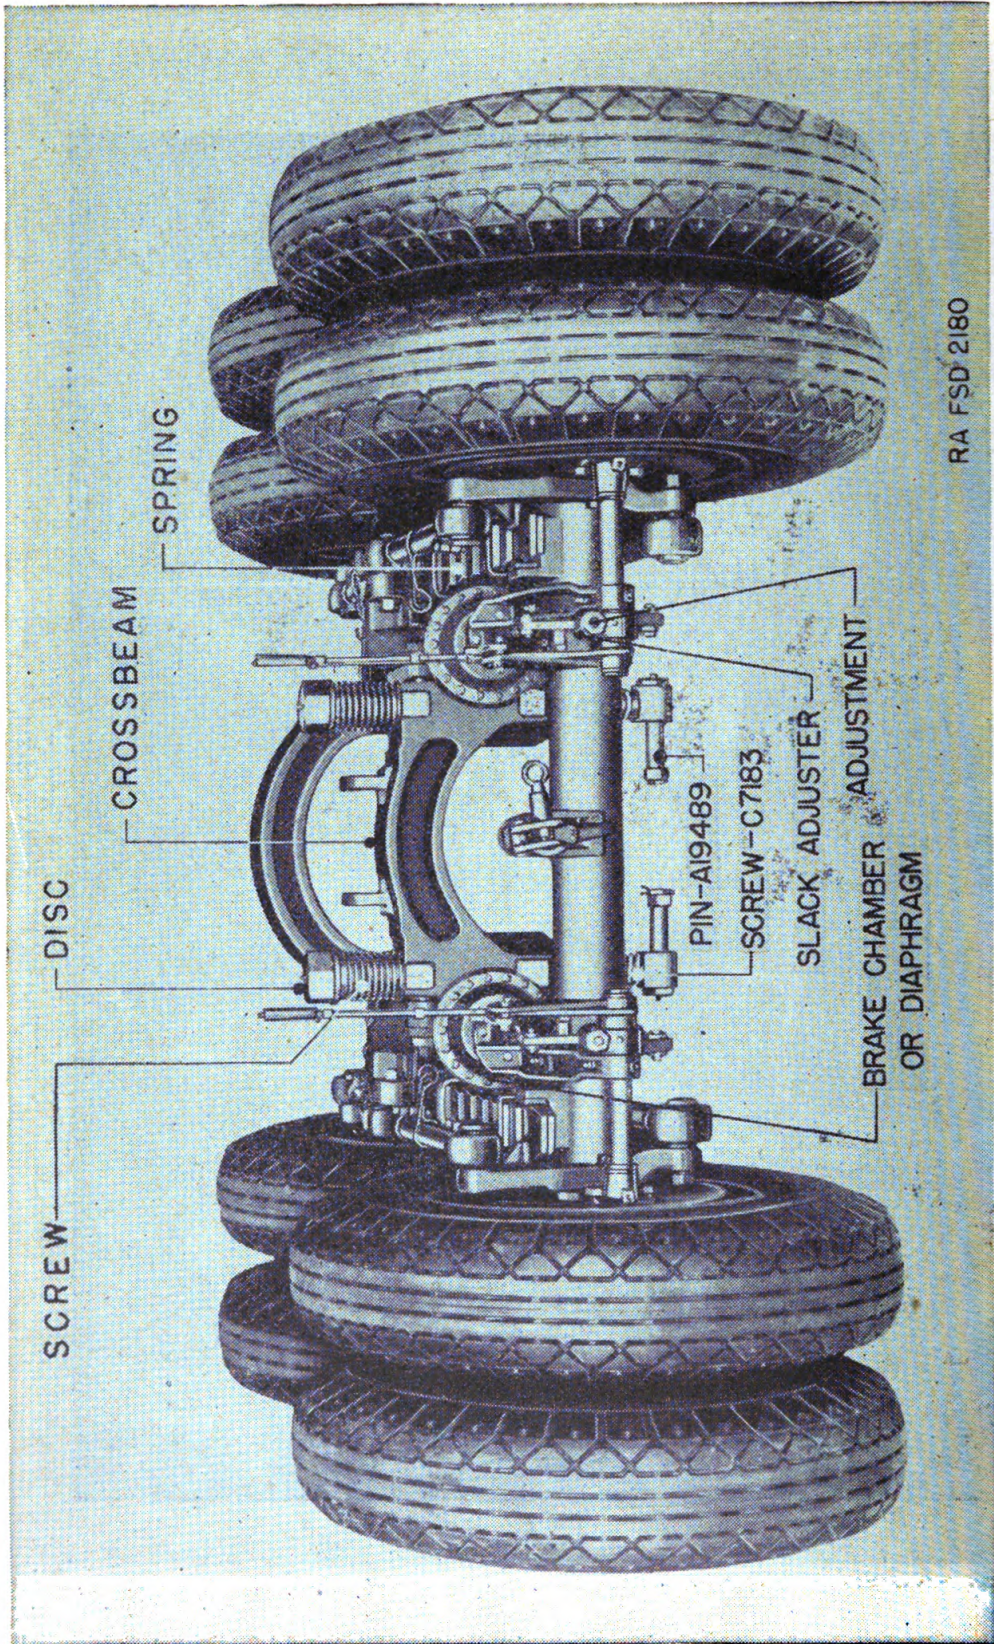

FIGURE 22.—Bogie lifting mechanism.
*d. Brake chamber.*—The brake chamber converts the energy of the compressed air into the mechanical force necessary to force the brake shoes against the brake drum. As the brake is applied, the air pressure forces forward the diaphragm of the push rod connected with it, moving the slack adjuster into position to apply the brake. When the air pressure is released, the diaphragm and other parts return to their normal position (fig. 22).